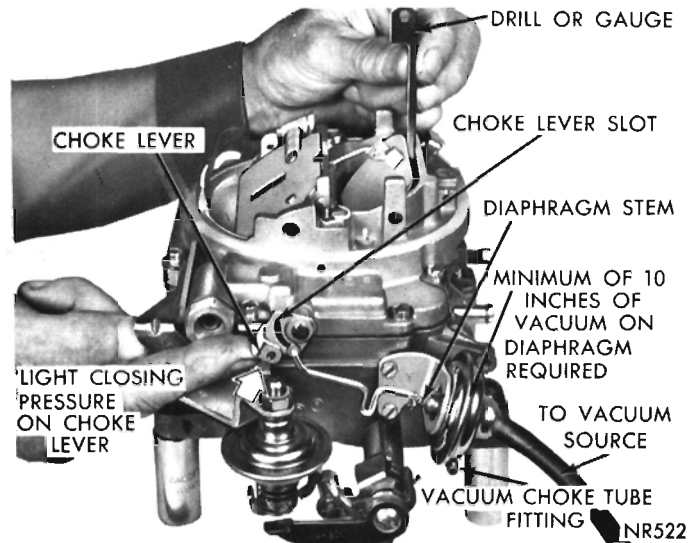

Fig. 13—Checking Choke Vacuum Kick Setting
(1) If adjustment is to be made with engine running, disconnect fast idle linkage to allow choke to close to kick position with engine at curb idle. If an auxiliary vacuum source is to be used, open throttle valves (engine not running) and move choke valve to closed position. Release throttle first, then release choke.
(2) When using an auxiliary vacuum source, disconnect vacuum hose from carburetor and connect it to hose from vacuum supply with a small length of tube to act as a fitting. Removal of hose from diaphragm may require forces which damage the system. Apply a vacuum of 10 or more inches of Hg.
(3) Insert specified drill (refer to Specifications) between choke valve and wall of air horn. (Fig. 13). Apply sufficient closing pressure on lever to which choke rod attaches to provide a minimum choke valve opening without distortion of diaphragm link. Note that on most units, a cylindrical stem extends as an internal spring is compressed. This spring must be fully compressed for proper measurement of vacuum kick adjustment.
(4) An adjustment will be necessary if a slight drag is not obtained as drill is being removed. Shorten or